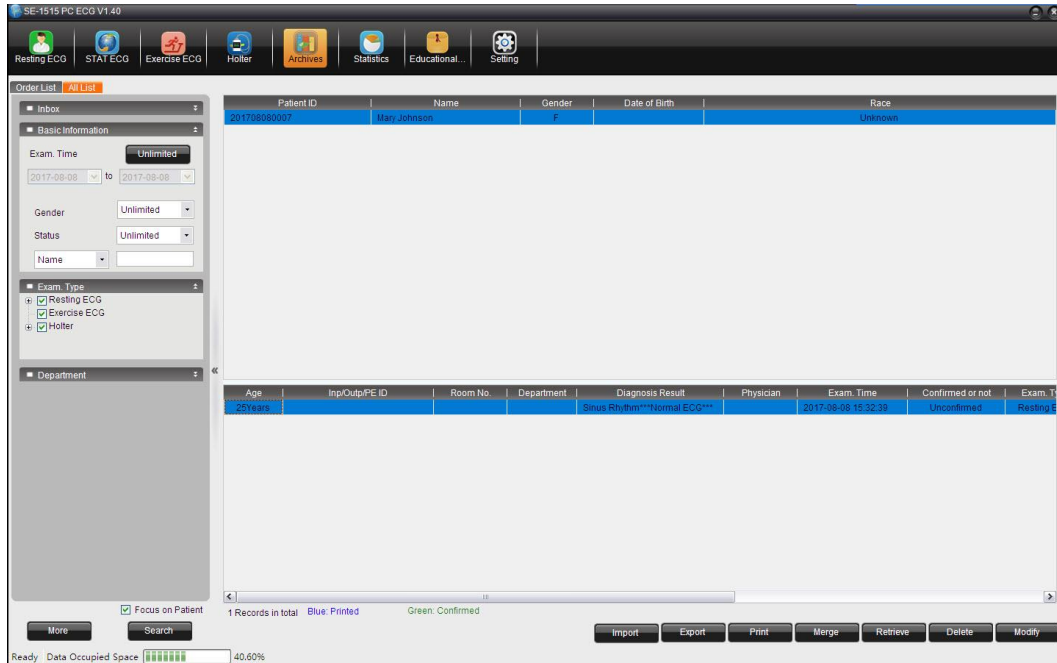

Figure 4-1 Main screen
- Click on the ECG type you want, e.g. **Resting ECG** or **Exercise ECG** at the top of the main screen (Figure 4-1). The New Patient window (Figure 4-2) opens. Enter the basic and other information of the patient.